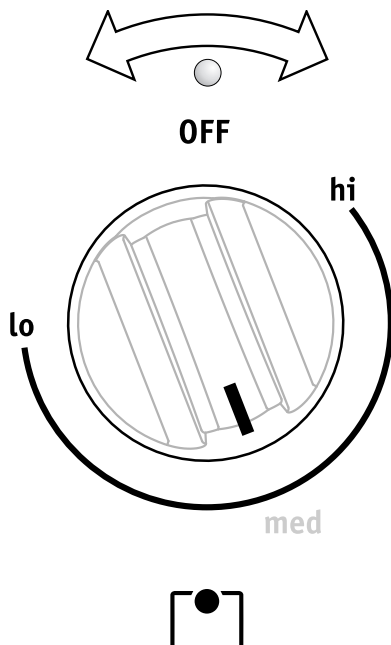

Fig. 1 (with approximate setting for medium shown)
1. Push the keep warm control knob in and turn the knob in either direction (See Fig. 1). The temperatures are approximate (See Fig. 2), and are designated by **hi** and **lo**. However, the control may be set at any position between **hi** and **lo** for different levels of warming.